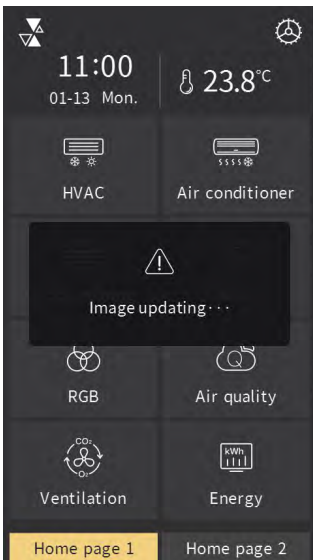
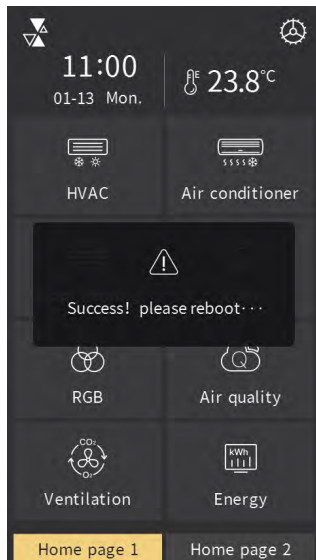
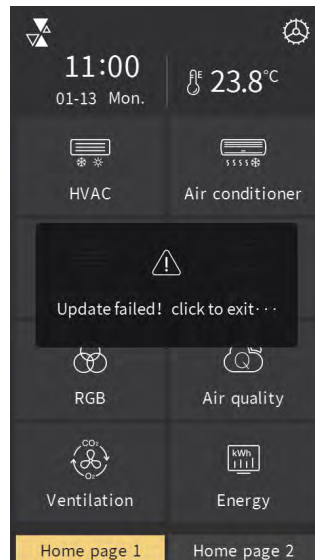
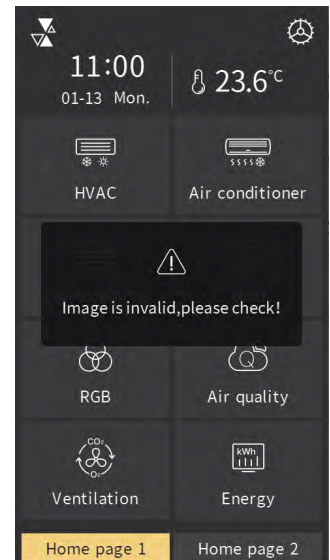

Fig.3.5
Fig.3.6
Fig.3.7
Fig.3.8
3. Click "Confirm" to update picture; after upgrade, there will pop up a window of the result, if upgrade is successful, then reboot the device manually to apply the new background to the system; if upgrade is failed, click any area outside the window to return to the page, as shown in Fig.3.5, Fig.3.6, Fig.3.7 and Fig.3.8.